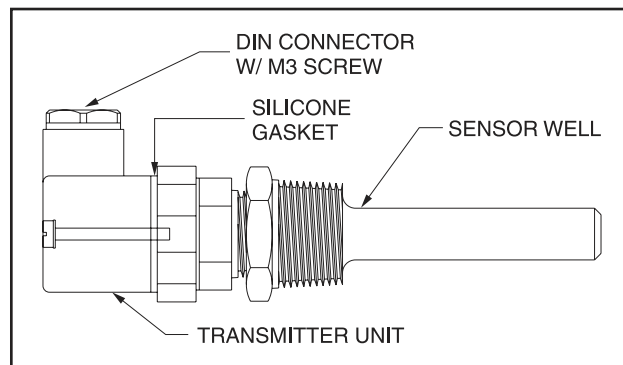

Figure 26 - Temperature Transmitter
2. Remove DIN connector plug from transmitter. See Figure 26.